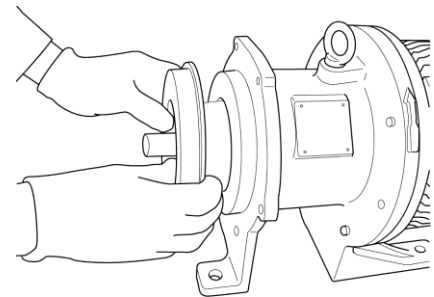

Figure 11
- To remove rear casing, insert a flat head screw driver into the periphery of the rear casing and slightly twist the screw driver. If the spindle remains in the front casing liner, remove it from the front casing. [Fig. 11]